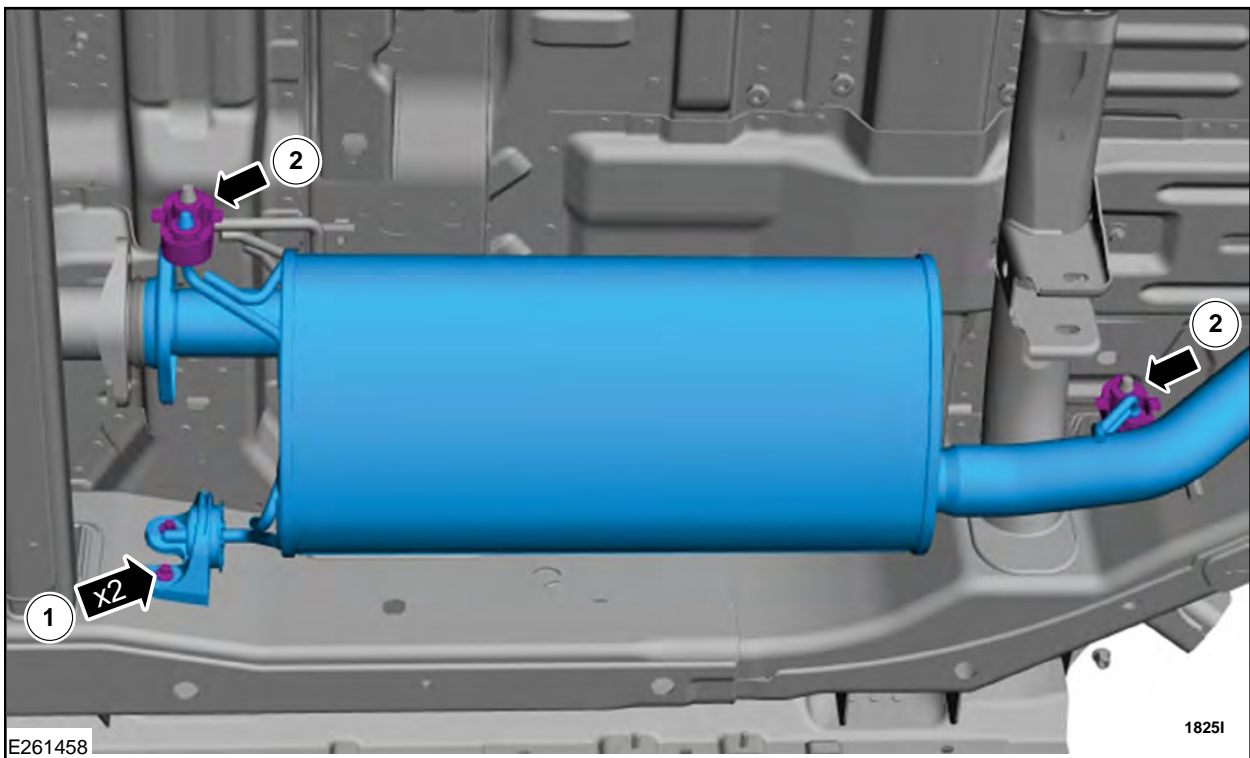

FIGURE 8
23. Remove the isolator bracket bolts and detach the isolators and remove the muffler. See Figure 8.